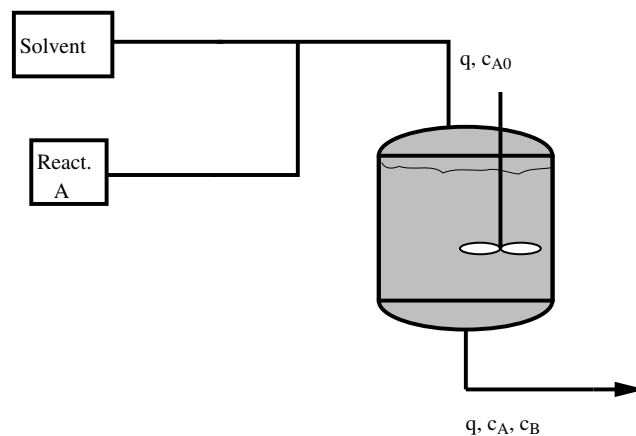

Figure 1 A reactor.
8. A chemical reactor is shown in Figure 1.